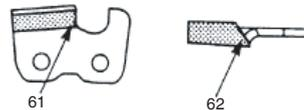

Fig. 47
- 6) File enough to remove any damage to cutting edges (side plate (61) and top plate (62)) of cutter. (Fig. 47)